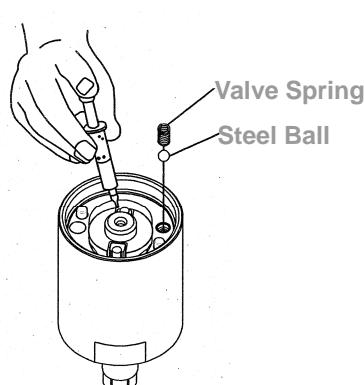

Fig. 140
- ③ Fill up the interior pulse cylinder with the pulse oil about 90% full by an injector. Put the steel ball and the valve spring into the hole on the pulse cylinder in order. (Fig. 140)